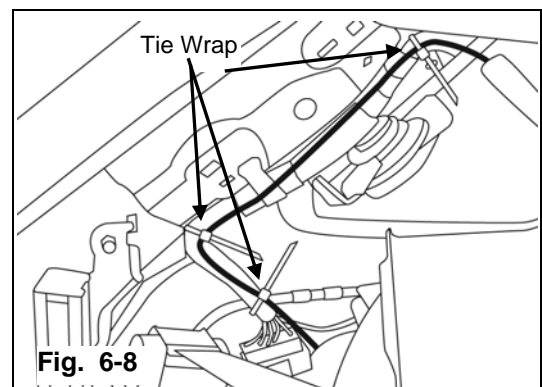

Fig. 6-8
8. Route video cable up driver-side D-pillar, securing to existing OE harness using three (3) tie wraps. (Fig. 6-8)